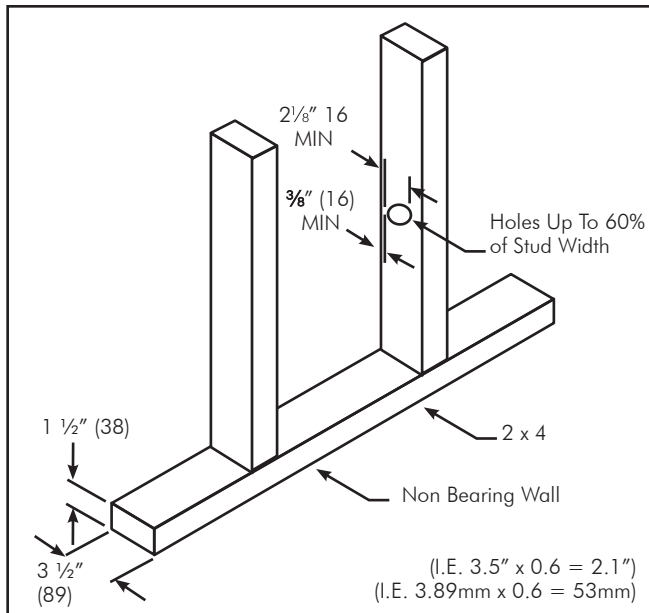

FIG. 4-8 Holes In Non-load Bearing Walls
- Where holes are to be bored in non-bearing vertical members of the wall framing the size of such holes shall not be larger than 60 percent of the width of the member (See **FIG. 4-8**).